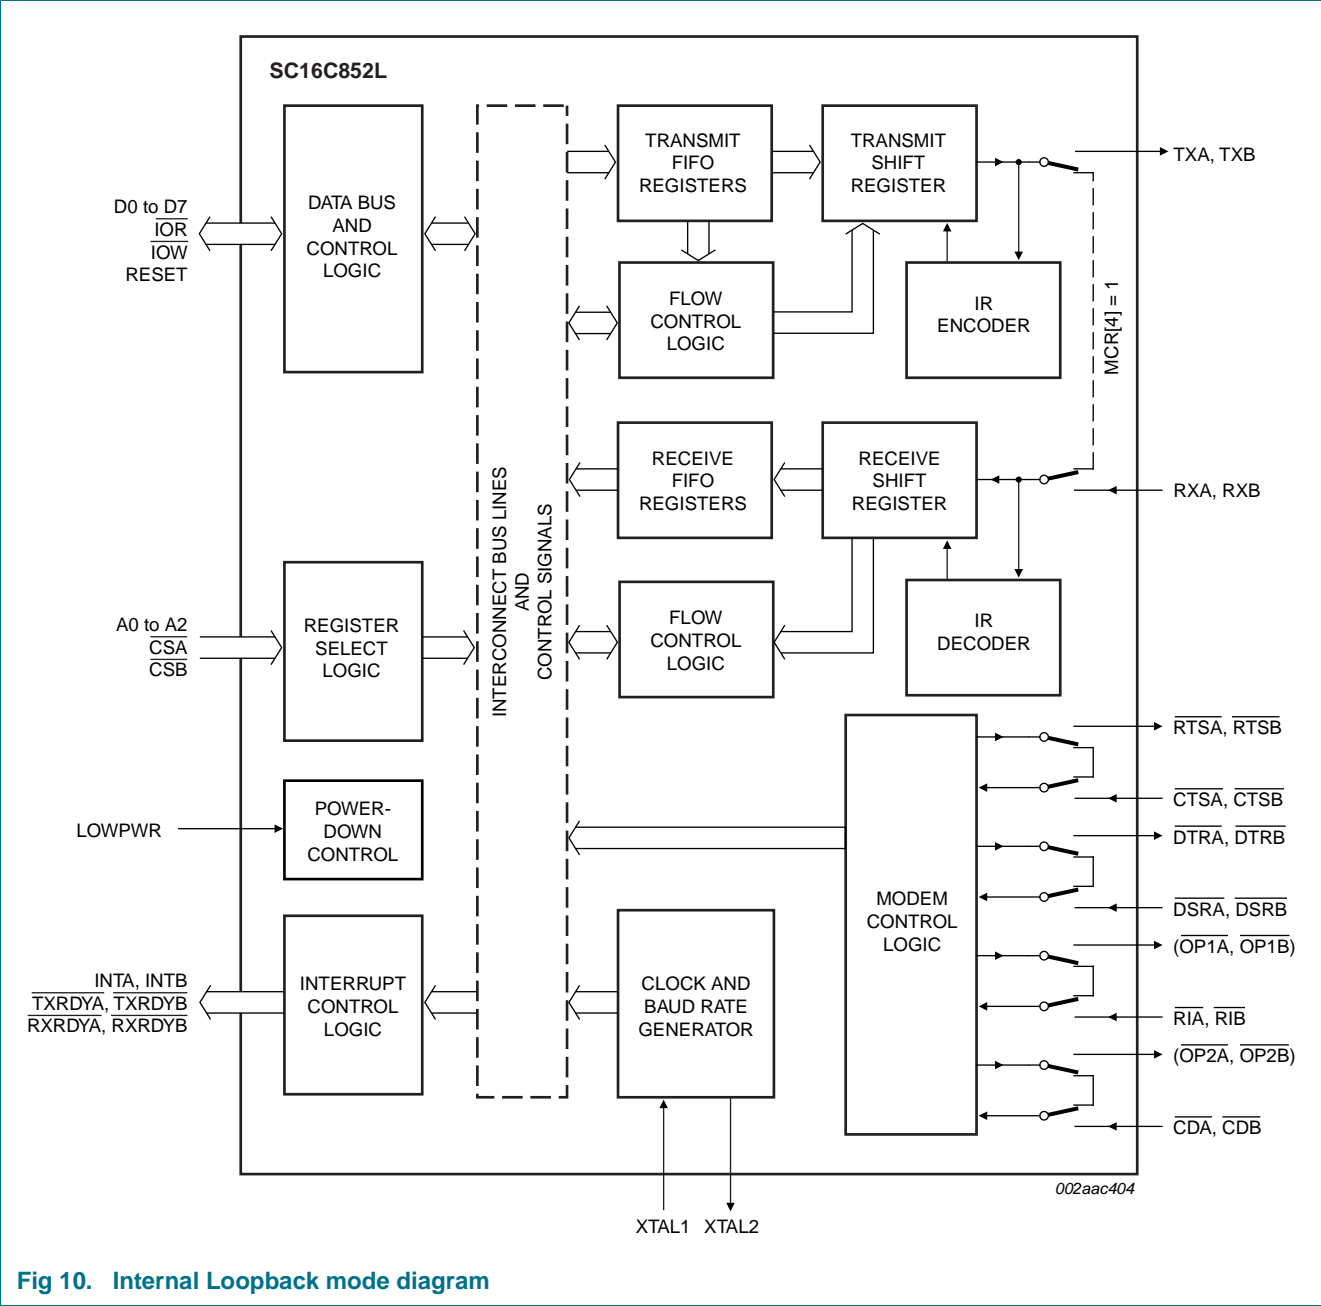

Fig 10. Internal Loopback mode diagram
The internal loopback capability allows on-board diagnostics. In the Loopback mode, the normal modem interface pins are disconnected and reconfigured for loopback internally (see Figure 10). MCR[3:0] register bits are used for controlling loopback diagnostic testing. In the Loopback mode, the transmitter output (TX) and the receiver input (RX) are disconnected from their associated interface pins, and instead are connected together internally. The  $\overline{\text{CTS}}$ ,  $\overline{\text{DSR}}$ ,  $\overline{\text{CD}}$ , and  $\overline{\text{RI}}$  are disconnected from their normal modem control input pins, and instead are connected internally to  $\overline{\text{RTS}}$ ,  $\overline{\text{DTR}}$ , MCR[3] ( $\overline{\text{OP2A}}/\overline{\text{OP2B}}$ ) and MCR[2] ( $\overline{\text{OP1A}}/\overline{\text{OP1B}}$ ). Loopback test data is entered into the transmit holding register via the user data bus interface, D[7:0]. The transmit UART serializes the data and passes the serial data to the receive UART via the internal loopback connection. The receive UART converts the serial data back into parallel data that is then made available at the user data interface D[7:0]. The user optionally compares the received data to the initial transmitted data for verifying error-free operation of the UART TX/RX circuits.